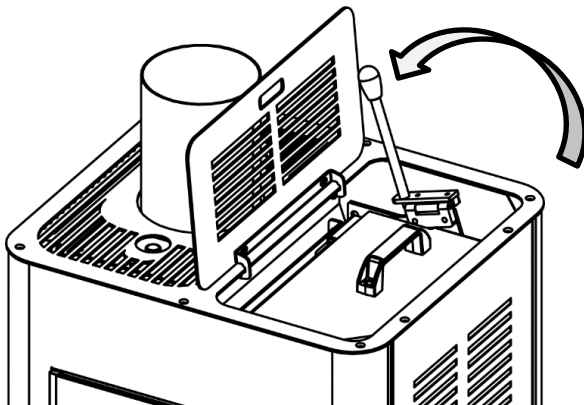

Fig. 12
- Open the lid and move the pellet loading lever to the “Stop” position (fig. 12);